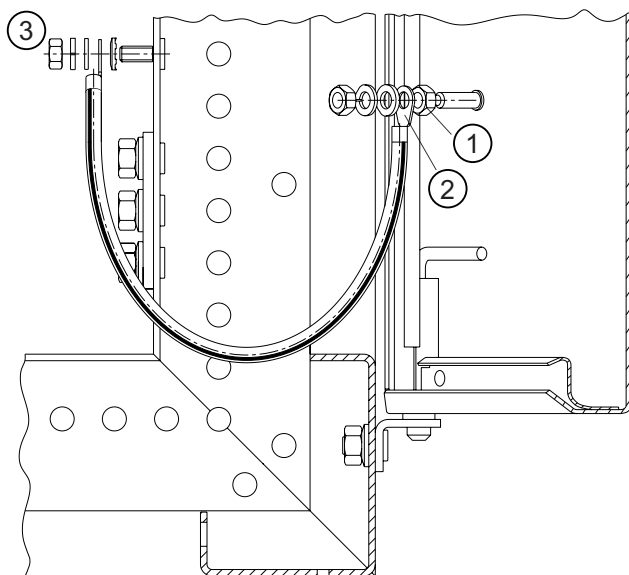

Fig. 12
- 1 Screw the M 6 hexagonal nuts to the M 6 grounding stud of the door with a tightening torque of 3 Nm for the protective conductor connection of the doors. See Figure 12.